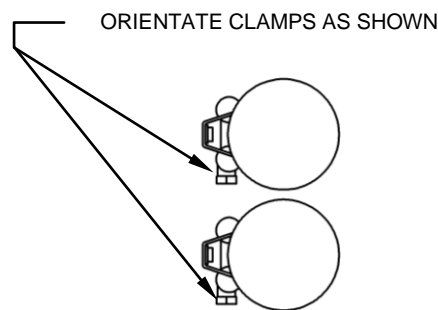

FIGURE 2
5. Slide one supplied clamp onto each muffler and position as shown in figure 2.
9. To install the front heatshield, first slide the rear portion of the heatshield over the muffler, continue to slowly slide it forward pushing the front of the shield gently into place between the frame and motor (Hint: Spread the hose clamps apart slightly to make it easier to slide them over the muffler assembly and head pipes). Make sure the muffler clamps do not interfere with the heatshields and are aligned as shown in Figure 2. Snug the heatshield clamps but **do not tighten**.